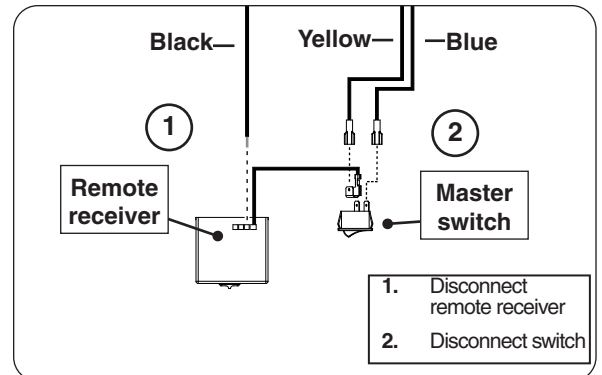

Fig. 59-1 Disconnect receiver & switch wires
3. Locate the remote receiver on the control panel, remove the 2 hex screws using a 1/4" nut driver, then pull the receiver (and bracket) out of the control panel. Disconnect the receiver and switch wires as shown in Fig. 59-1, steps 1-2.